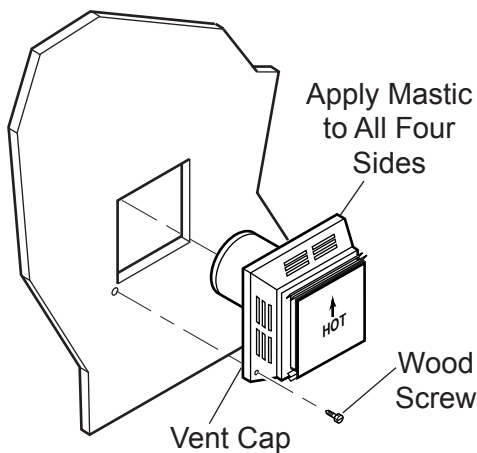

Figure 16 - Installing Horizontal Vent Cap
4. Apply a bead of non-hardening mastic around the outside edge of vent cap. Position the vent cap in the center of the 7 1/2" (190mm) or 9 1/2" (241mm) hole on the exterior wall with the word "UP" on the vent cap facing up. Insure proper clearance of 1" to combustibles is maintained. Attach the vent cap with four wood screws supplied. See Figure 16.